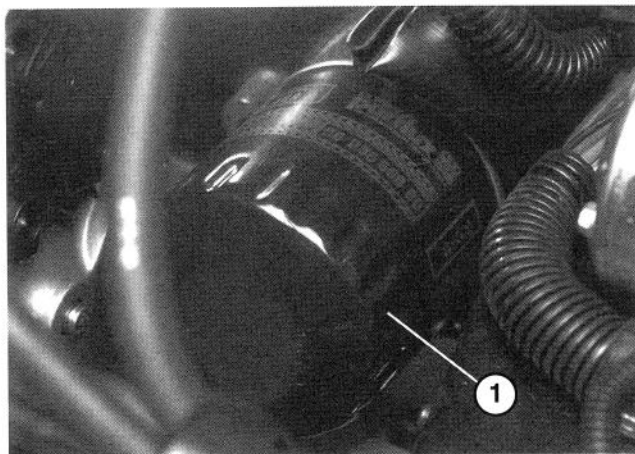

Figure 46
2. Remove oil filter (Fig. 46). Apply a light coat of clean oil to the new filter seal before screwing it on. DO NOT OVER-TIGHTEN.